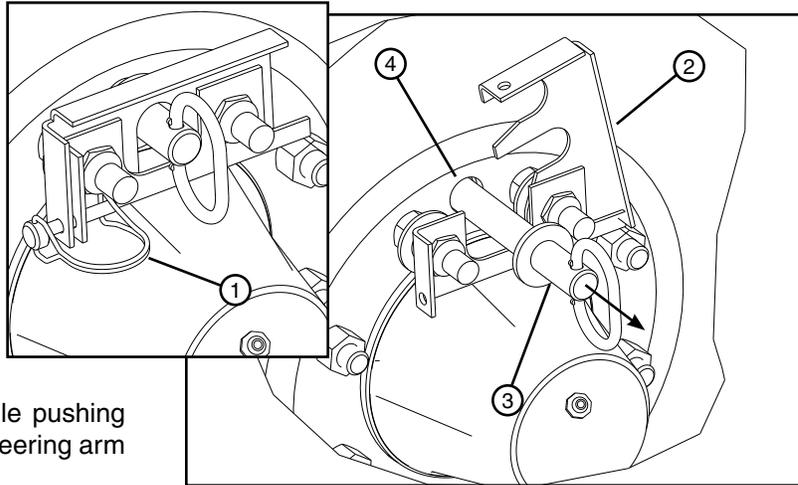

Figure 34-1 1. Lynch Pin 2. Retainer Clip 3. Torque Pin 4. Hub Torque Pin Receiver
5. Remove lynch pin from retainer clip, then open retainer clip and pull the torque pin from axle torque arm behind gearbox hub and hub torque pin receiver. See Figure 34-1.